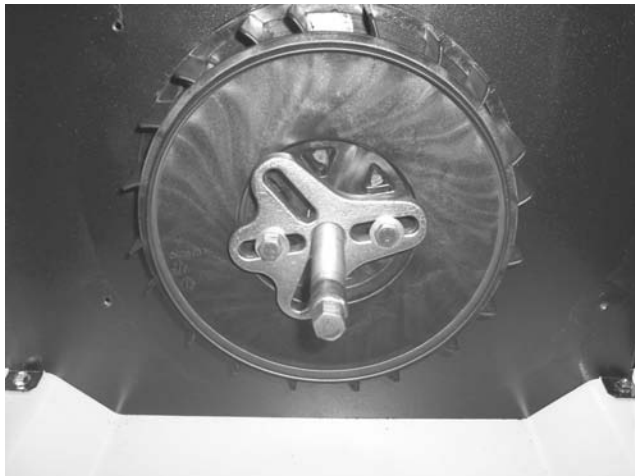

Figure 193.
9. **Remove Fan:** Attach a steering wheel puller to the fan using two M8 x 1.25 bolts. Remove the fan from the rotor. Figure 193.